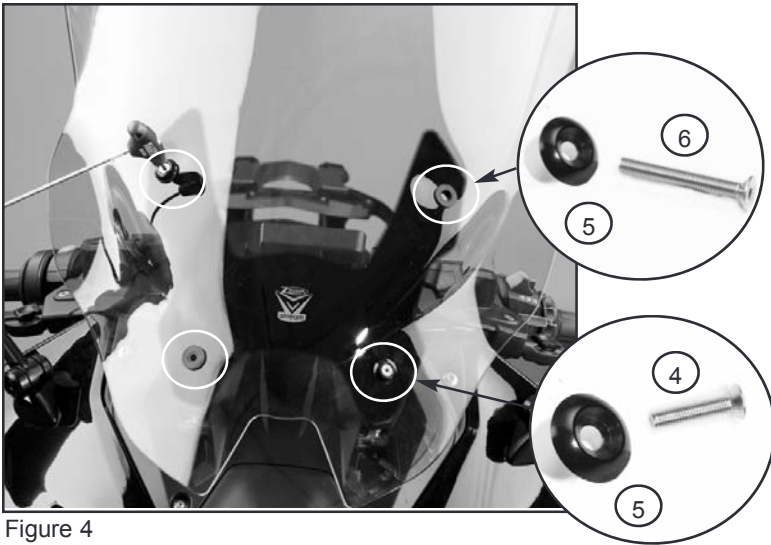

Figure 4
4. Secure Windshield to OEM mounts at the 2 upper hole locations with a cap (5) and a M5 x 45 Screw (6). (3mm Hex Key) Figure 4
5. Secure Windshield at the 2 lower hole locations with a cap (5) and a M5 x 25 Screw (4). (3mm Hex Key) Figure 4
6. Tighten all 4 screws securely. (3mm Hex Key) Figure 4